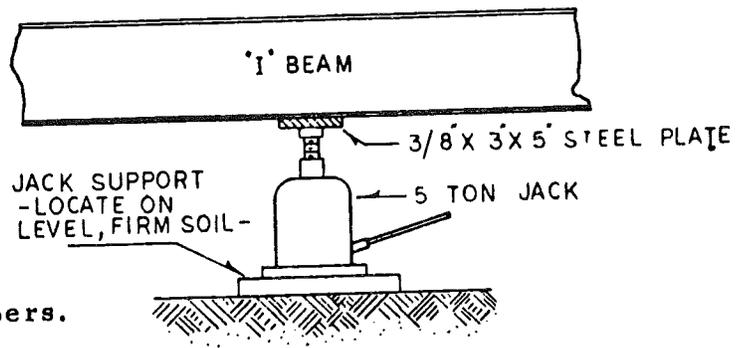

FIG. 2
2. Use a steel plate (3/8"x3"x5") between jacks and steel I-beam to distribut the concentrated loads - see fig. 2.